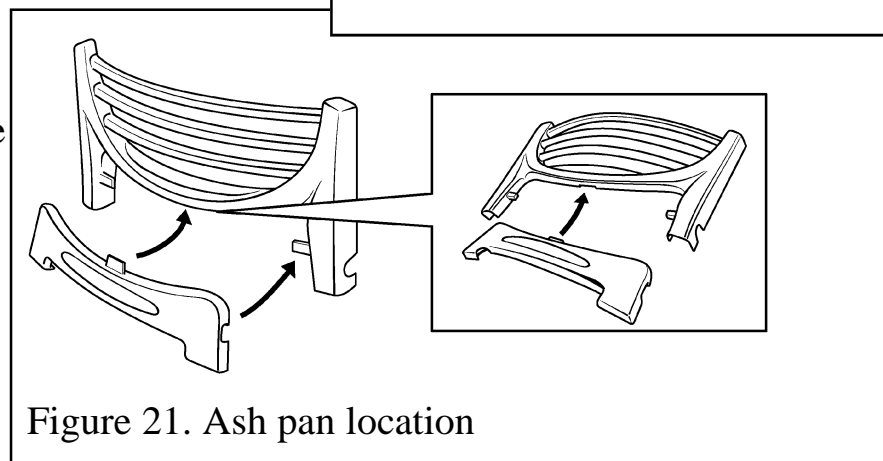

Figure 21. Ash pan location
- Fit the "ash pan" cover below the front casting locating it as shown in figure 21.